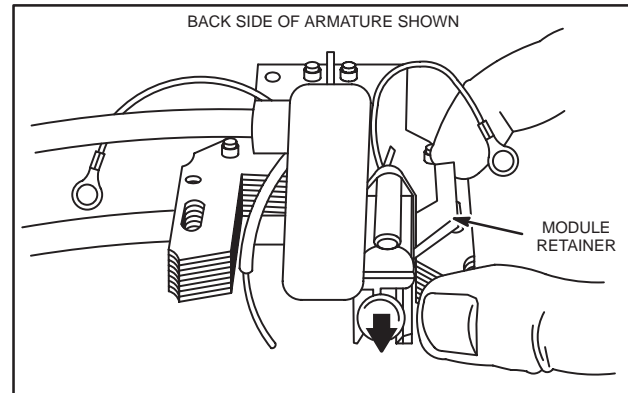

Fig. 8 – Remove Module
7. Pry module retainer away lamination, Fig. 8.